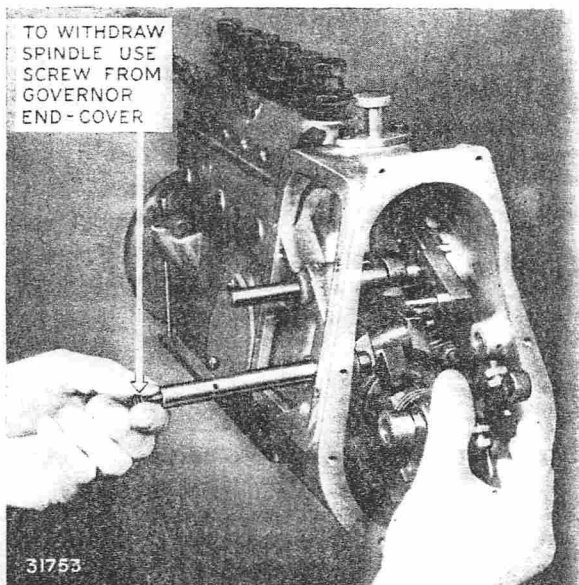
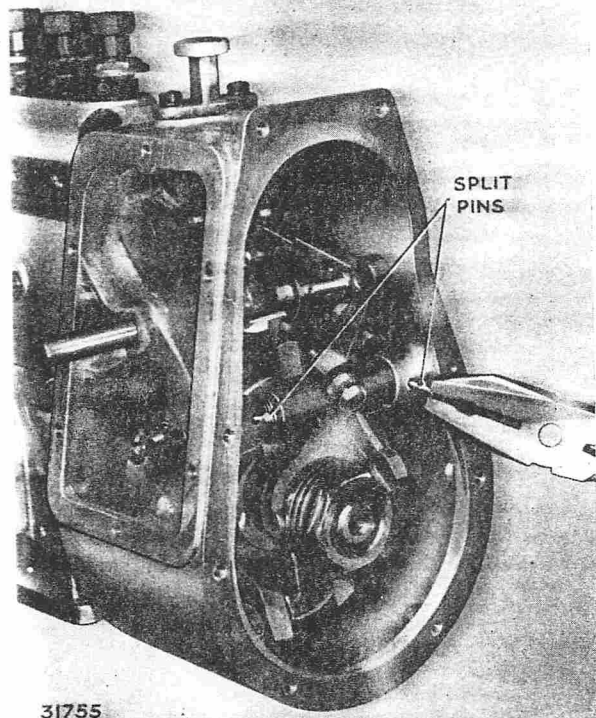

FIG. 47. REMOVING GOVERNOR LINKAGE SPINDLE
FIG. 50. REMOVING SPLIT PINS SECURING LINKAGE SPINDLE
4. Take out the split pins securing the pivot spindle (Fig. 50), screw a 1/4 in. B.S.F. bolt into the tapped end and withdraw the spindle (Fig. 47). Remove the torsion spring and forked pick-up lever (Fig. 43).